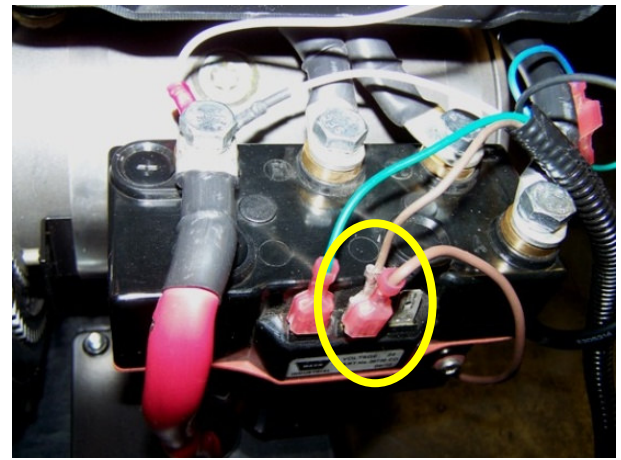

Figure 24
Step 22: Connect the brown wire from motor ground to the contactor terminal 2. (Figure 24)